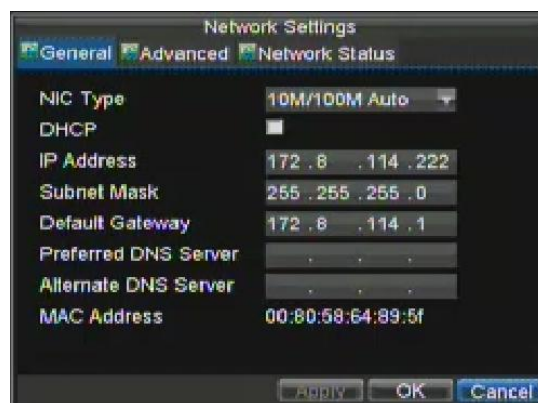

Figure 3. Network Settings Menu
3. Set the IP address and subnet mask to 0, as shown in Figure 3. When the PPPoE connection is successfully established, the IP address will be added automatically.